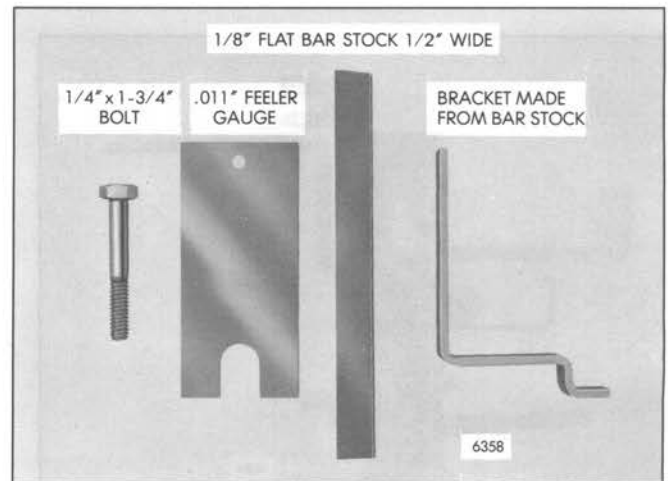

Fig. 3 - Fabricate Indexing Bracket
2. Fabricate an indexing bracket from a 5" long piece of 1/2" wide, 1/8" thick bar stock (Fig. 3). Secure the indexing bracket to the control tube with a hose clamp (Fig. 4).